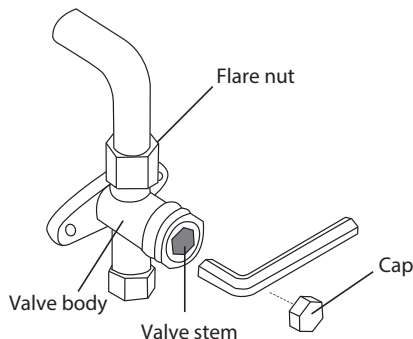

FIGURE 17— Service Valve Diagram
9. Insert a hexagonal wrench into each Gas Side Service Valve for size 18 or into the Master Gas Side Service Valve for sizes 27-36 and open the valve by turning the wrench 1/4 in. counterclockwise. Listen for gas to exit the system (see Fig. 17).
12. Using a hexagonal wrench, fully open all the gas and liquid service valves for the size 18 and all the Master Gas and Liquid service valves for sizes 27-36 (see Fig. 17).